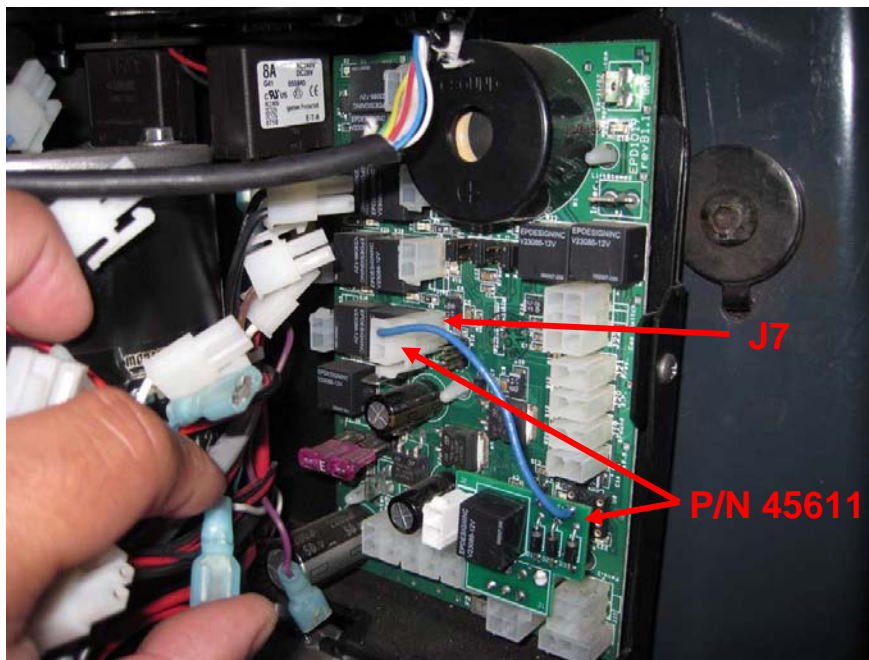

Figure 6. Install PCB Assembly onto Chassis
2. Refer to **Figure 6**. Reconnect terminals and receptacles onto PCB assembly.